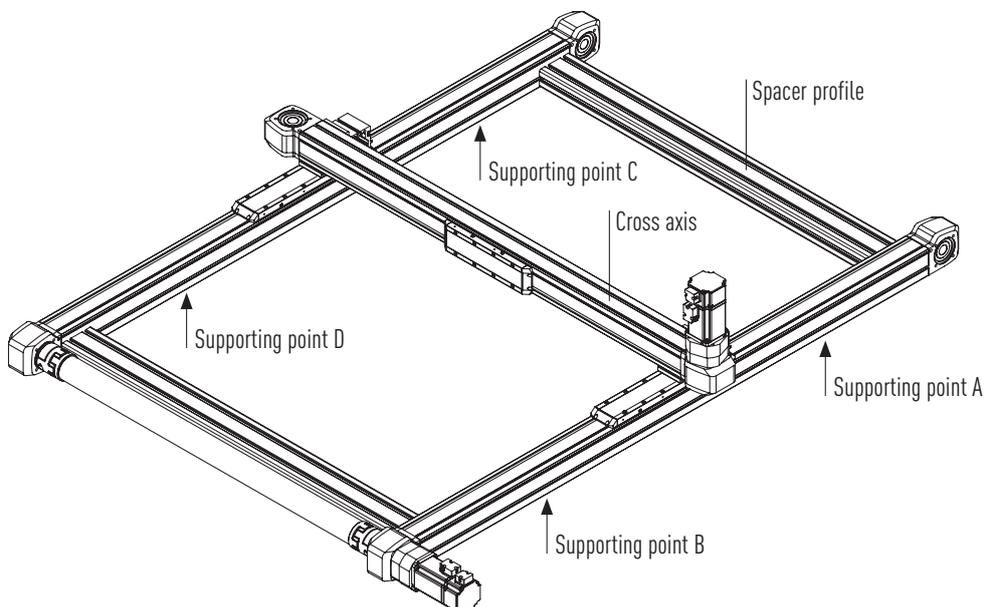

Fig. 5.4 Supporting points A, B, C and D for hoisting and transporting, here on a two-axis system HS2
- ▶ To transport the double axis/axis system, hoist it by the designated support points A, B, C and D (see Fig. 5.4). Use suitable hoisting gear for this purpose, such as an underslung or gantry crane, crane slings and – depending on the dimensions – a lifting beam. The points A and B as well as C and D should be a quarter of the axis' overall length from each of its ends.